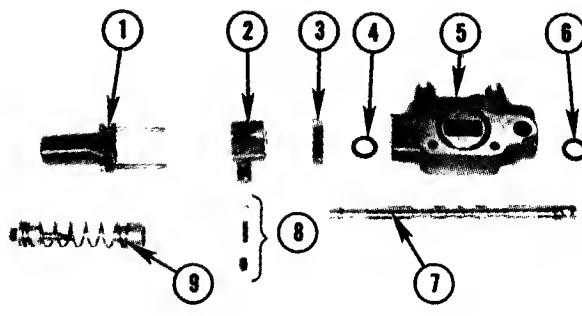

FIG. 5.7--MID MOUNT LIFT VALVE PARTS.
3. On mid-mount valve assembly, remove the setscrew from the detent housing and pull the detent assembly parts (item 8, figure 5.7).